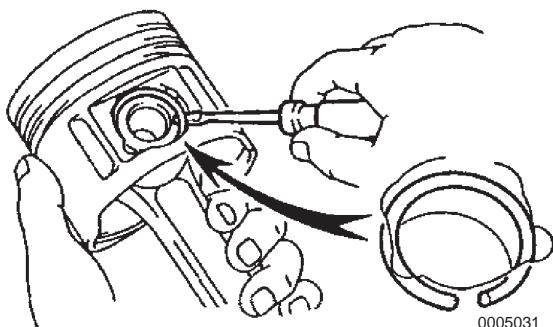

Figure 5-108
4. Pry out the snap ring using a small screwdriver to remove it from the piston (Figure 5-108).